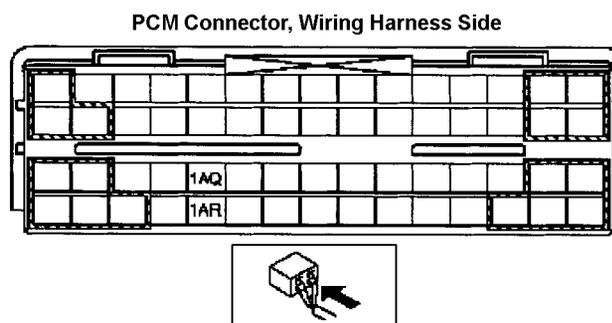

Figure MA014-15
8. Use a fused jumper wire to ground the PCM terminal (Figure MA014-15):